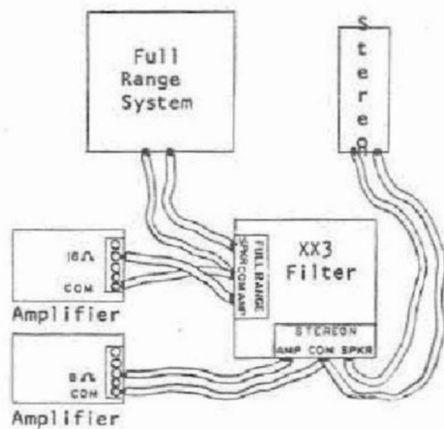

Fig. 3 — Schematic Wiring Diagram For Single Stereon
In the single STEREOON system, as illustrated in Figure 3, the 16-ohm output of one amplifier and the 8-ohm output of the second unit are fed into the Model XX3 STEREOON CONTROL FILTER. This unit correctly phases the BASS below 300 cycles per second from both channels and directs the composite bass to the full-range system. This makes use of the full bass reproduction capabilities of the system in supplying full bodied bass for both channels. The upper range of one channel follows into the same full-range system; the mid and high-range from the other channel is fed to the highly developed STEREOON. The STEREOON
1. Connect amplifiers, full-range system and STEREO to STEREO CONTROL FILTER as shown in Figure 3.